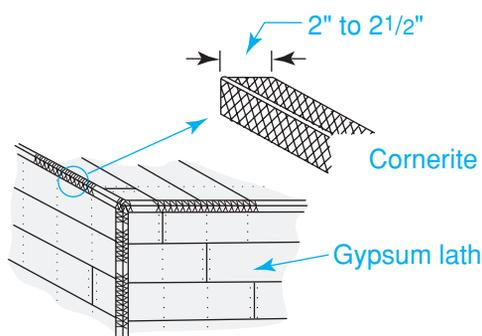

Figure 32-21 Cornerite Reinforcer Cornerite is installed at inside corners for reinforcement and to limit plaster cracks.
- *Cornerite* is an angled length of metal lath that is used to strengthen interior corners (see **Figure 32-21**).